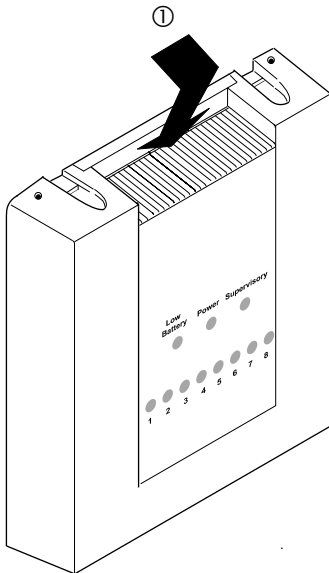

Figure 6. Removing the receiver cover
1. Remove the receiver cover by pressing down on the top centre of the cover (see Figure 6).